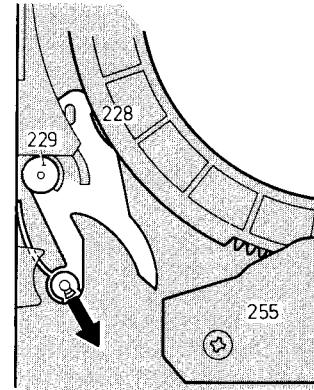

Fig. 1-9
- Unlock the hinged lever, lift it slightly up, swing it toward the right and remove it. See Fig. 1-9.